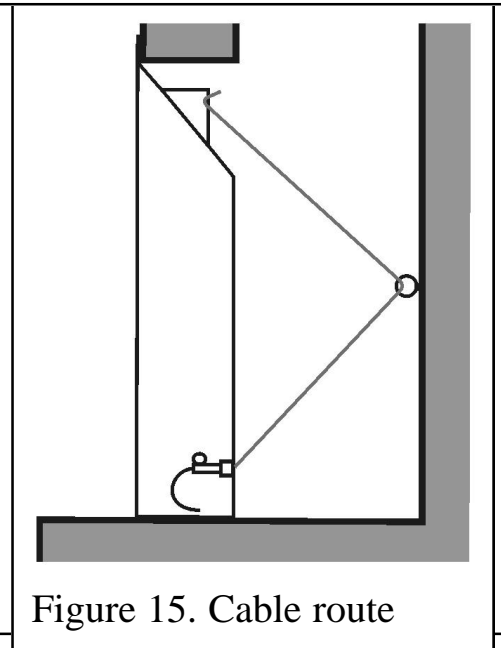

Figure 15. Cable route
6. Thread the cables through the eyebolts in the rear wall. Return the cables through the holes near the bottom corners of the convection box back panel (See figure 15).